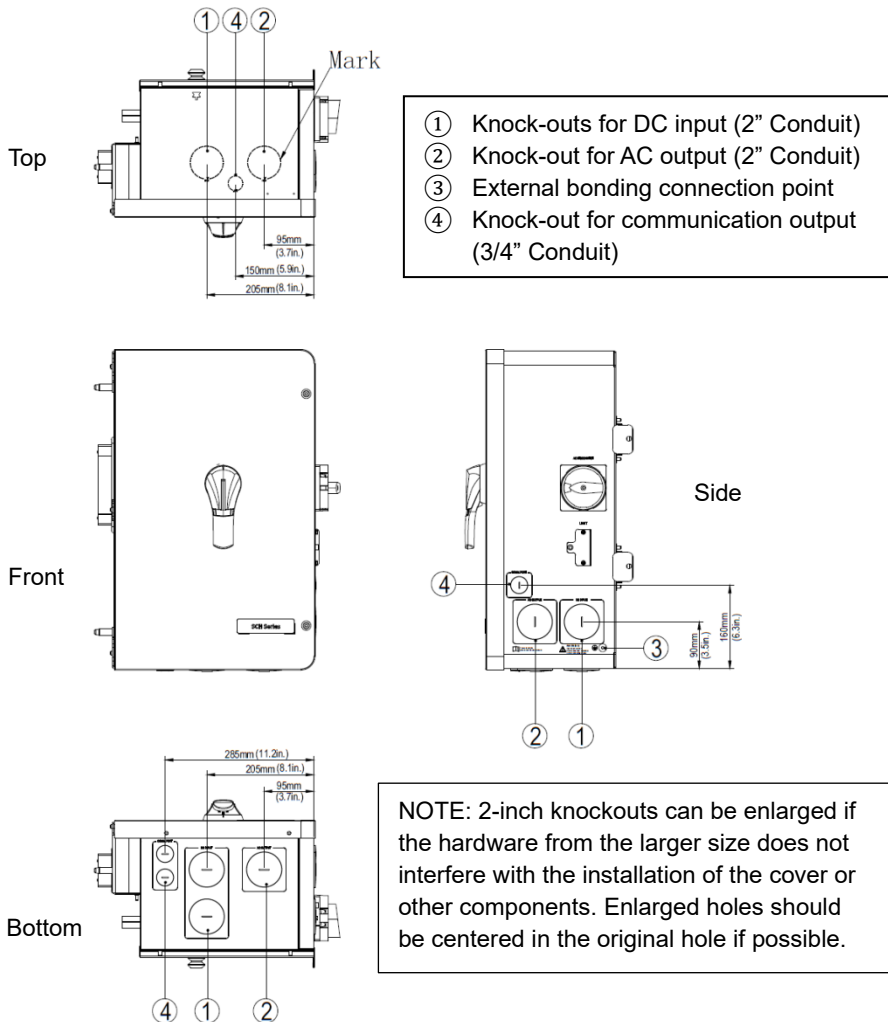

Figure 3-21A Conduit Knock-out Locations (Centralized Wire-box)
- 1) Connect the Ground cable as shown in Figure 3-21A or 3-21B item 3 - Bond the Inverter to local grounding point – drive ground rod or equivalent.